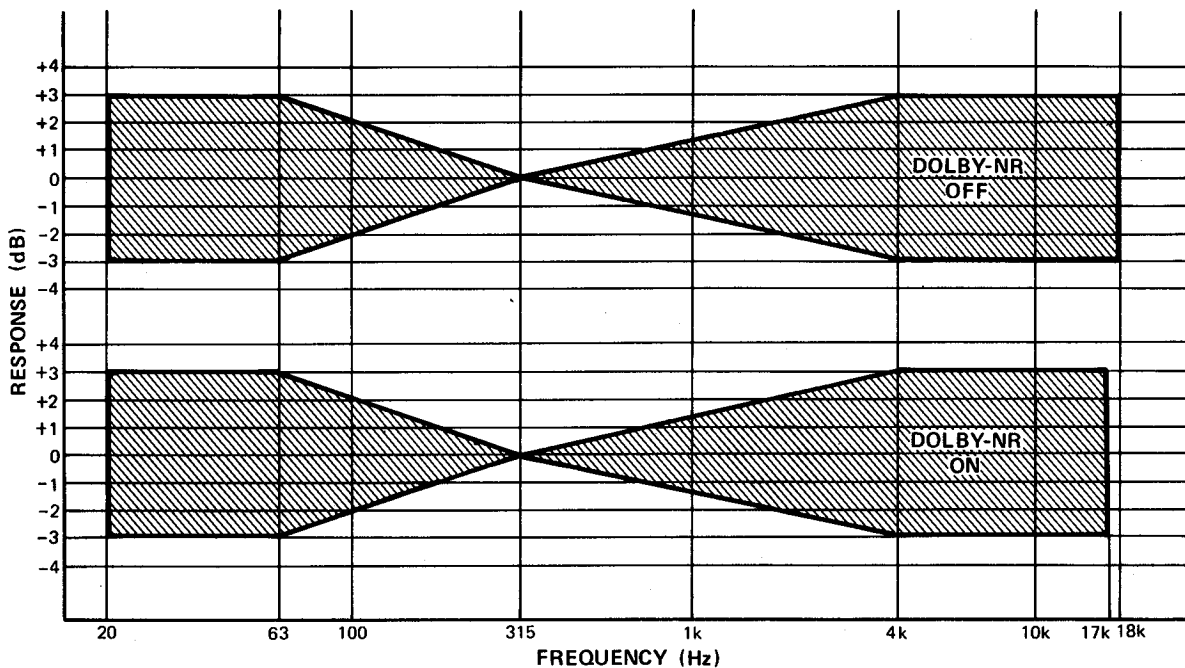

Fig. 4 – Low Noise
12. If the above frequency response is not within the shaded DOLBY-NR OFF area of Fig. 4, adjust VR309 (left) and VR310 (right) slightly. Repeat steps 10 and 11 until playback frequency response on the V.T.V.M. 2 is adjusted within the DOLBY-NR OFF range as shown in Fig. 4.
13. Set Dolby NR switch to ON position and check if frequency response is within range of DOLBY-NR ON section of Fig. 4, if not repeat DOLBY-NR OFF procedures.